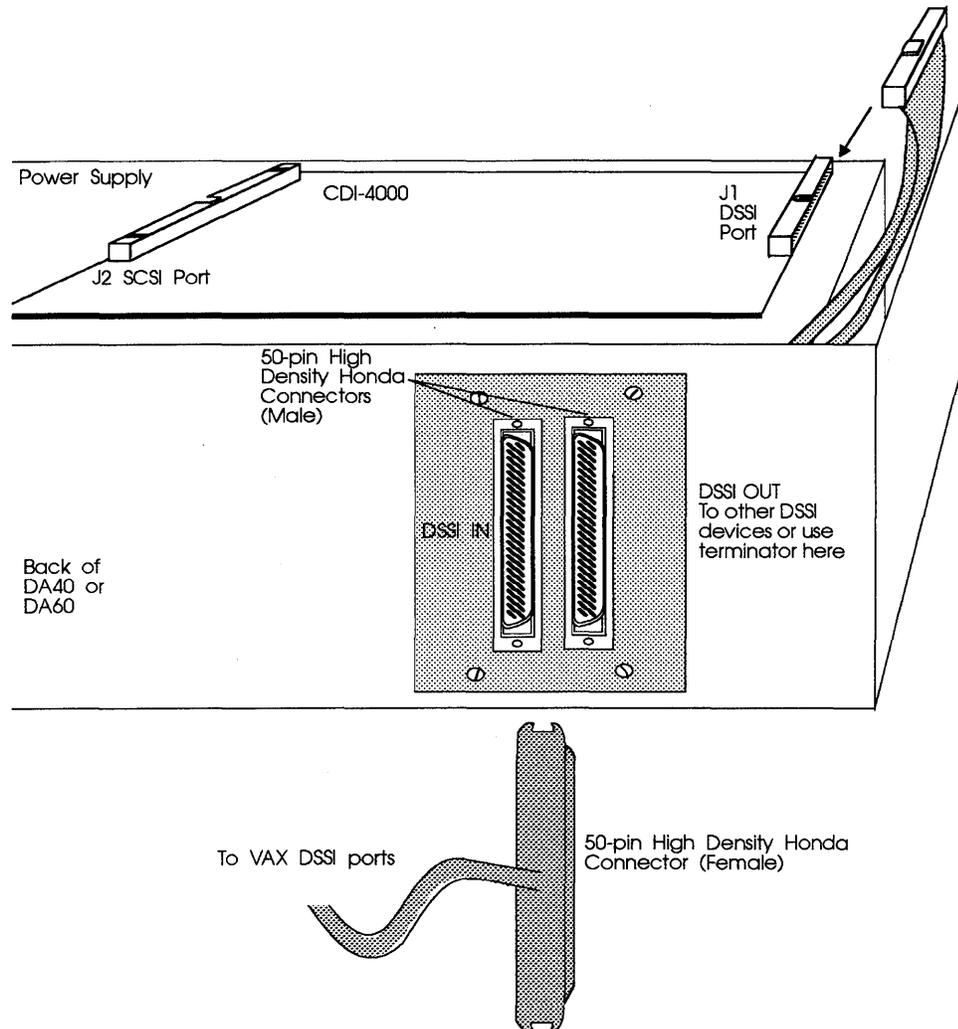

Figure 6-5: DSSI port (J1) cable connection
- 17 Connect the DSSI cable from the DSSI bracket to the CDI-4000 at J1, DSSI port; see Figure 6-5. Route the DSSI cable on the side of the power supply.
- 18 Connect an external DSSI cable to one of the DSSI connectors on the DSSI bracket as shown in Figure 6-5.